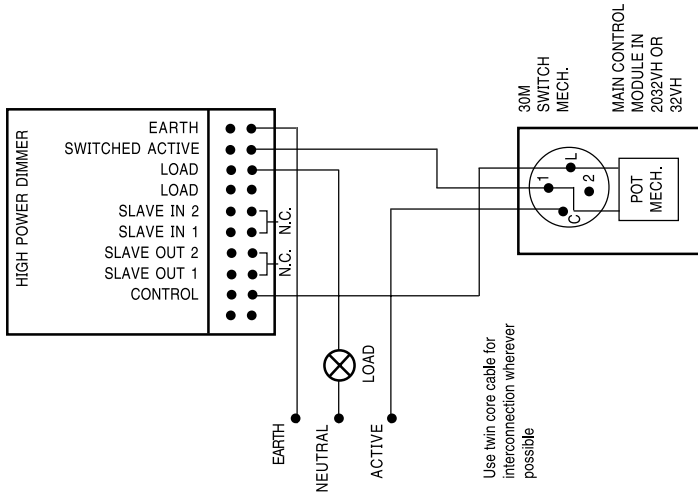
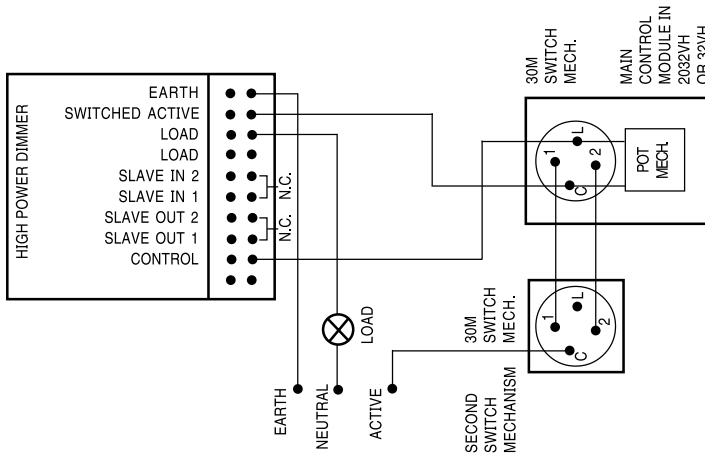

Figure 1. Basic Wiring Diagram
Figure 2. 2-Way Switching Option
In normal operation, the unit is wired in one of the options shown in either Figure 1 or Figure 2 (Figure 2 shows the basic wiring in a 2-way switching application).
1. The basic dimmer wiring diagram is shown in Figure 1.
3. Figures 1, 2, 3 and 4, show various wiring configurations for the high power dimmer range.